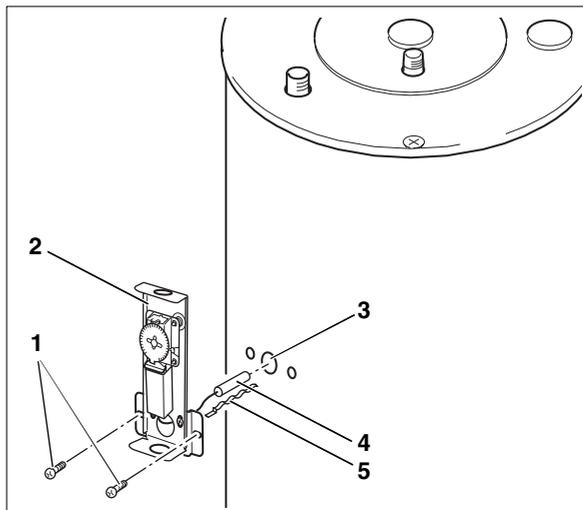

Fig. 9 Installation of Honeywell aquastat
- Insert aquastat capillary with tension spacer (Fig. 9, **Item. 4 and 5**) into tank dry well (Fig. 9, **Item. 3**).
- Secure aquastat assembly (Fig. 9, **Item. 2**) with 2 screws (Fig. 9, **Item. 1**) to the tank jacket.